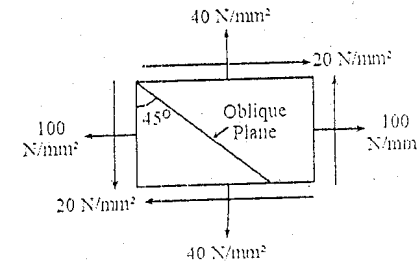

Figure.2
- Que.2 a) A point in a strained material is subjected to stresses shown in fig. 2. Determine normal, tangential and resultant stresses across oblique plane by Mohr's circle method. Also calculate angle of obliquity. 8 Marks